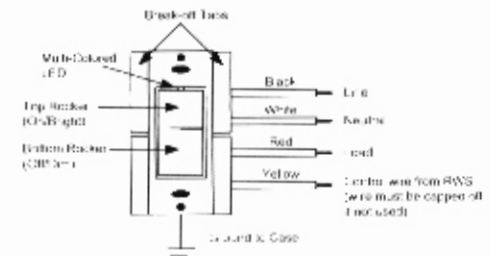

Figure 1: WS1D Wall Switch Dimmer
- Refer to Figures 1 and 2 to determine the wire colors of the hook-up.
The WS1D Wall Switch Dimmer (Figure 1) is a high quality light switch/dimmer that not only allows for local rocker switch control of a lighting load but also incorporates PCS's innovative UPB™ two-way powerline communication technology that gives it the ability to be remotely controlled by other UPB™ compatible controllers. The WS1D is highly configurable to allow for scenarios customized to each individual's desires. The WS1D is capable of storing up to 16 preset light levels and fade rates to create powerful lighting scenes. The WS1D is also capable of transmitting UPB™ messages (including a current light level report) when rocker switch events occur. The WS1D is capable of being set to a normal dimming mode in order to control such loads as fluorescent lights.
For a proper fit in a multiple-gang installation, it may be necessary to remove one or both sides' break-off tabs from the mounting plate (see Figure 1). When tabs are removed, the overall rating of the device must be reduced in accordance with the following chart: